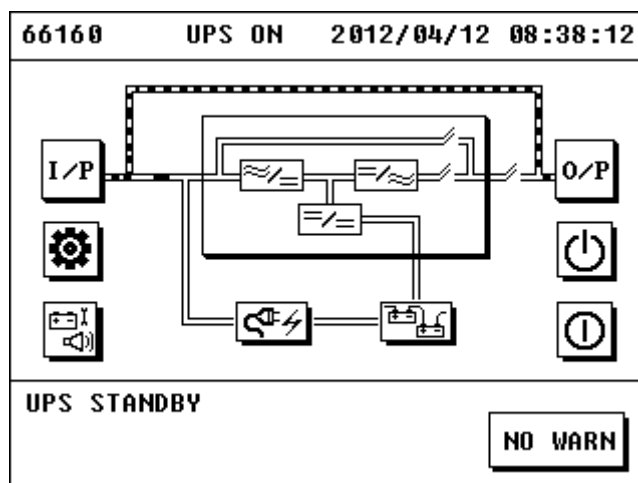

Figure 3.19 Maintenance Bypass Mode
2. Open the cover of breaker of maintenance bypass, close the breaker of maintenance bypass, cut off the output and battery breakers, and then the UPS enters into maintenance bypass mode. Its energy flow is shown in figure 3.19: